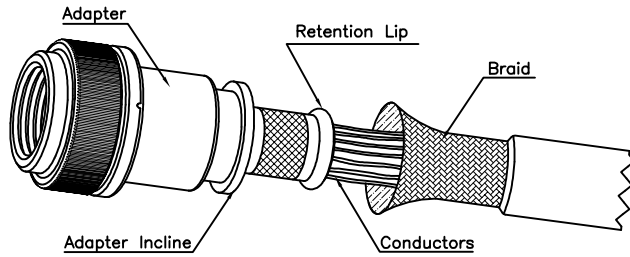

Figure-1
1. Prepare Cable Braid for termination process (Figure-1).